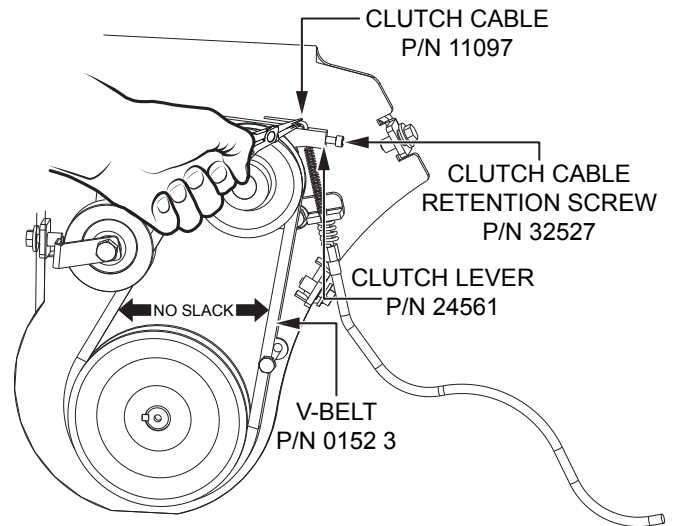

Figure 36. Clutch Cable Retention Screw Installation
8. Pull the clutch cable (P/N 11097) with pliers to eliminate all slack from the V-belt (P/N 0152 3). See Figure 36.
9. While holding the clutch cable (P/N 11097) to eliminate slack from the V-belt (P/N 0152 3), insert the clutch cable retention screw (P/N 32527) into the clutch lever (P/N 24561) and tighten securely. See Figure 36.